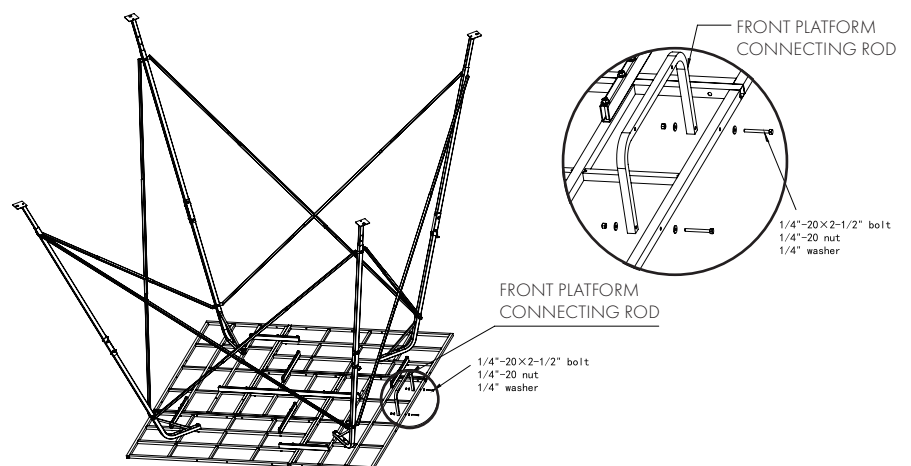

FIGURE 9
Attach the **FRONT PLATFORM CONNECTING ROD (#12)** to the assembled platform by using (2) 1/4"-20 x 2-1/2" bolts, (2) 1/4" lock nuts and (4) 1/4" flat washers (Figure 9). **Be sure to not over tighten.**